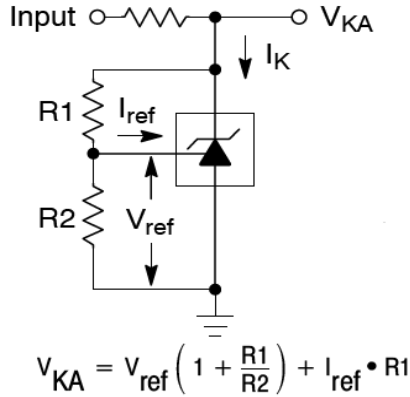

Figure 2: $V_{KA} > V_{REF}$
* When the device operating with two external resistors, $R1$ and $R2$, (refer to Figure 2) the total dynamic impedance of